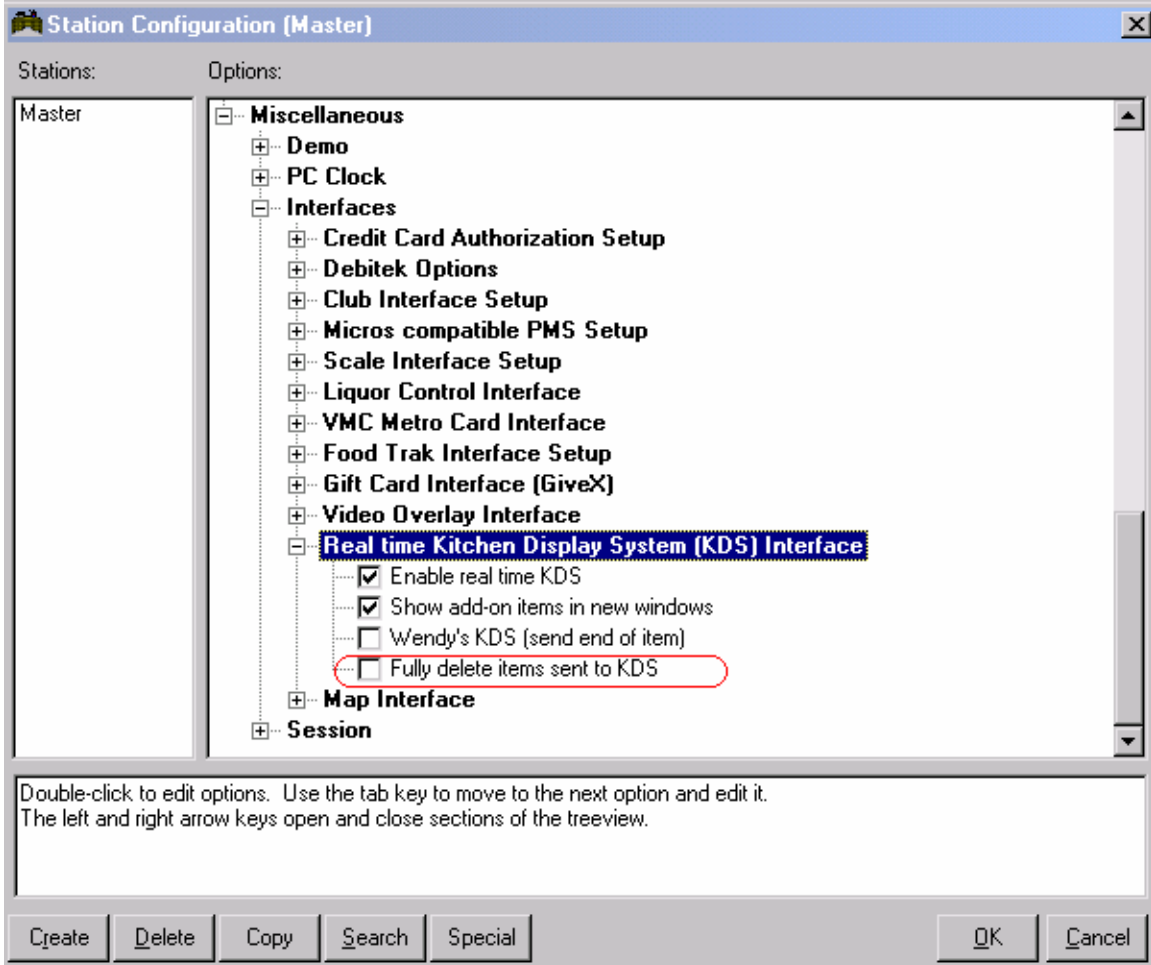

Figure 3
2. **Select prep-printers to go to Real Time KDS (see figure 3 on page 4)**